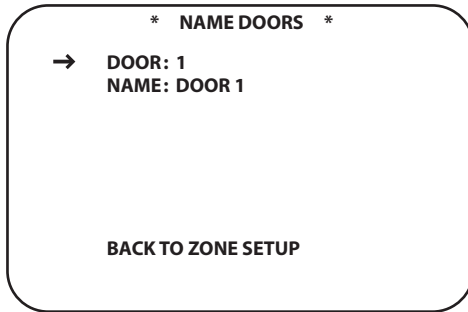
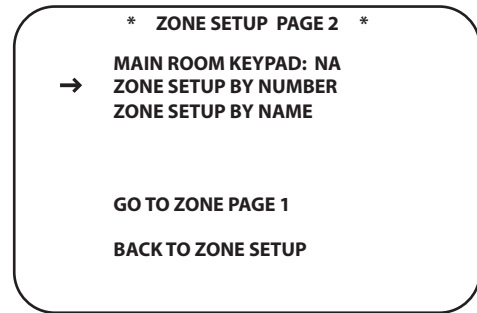
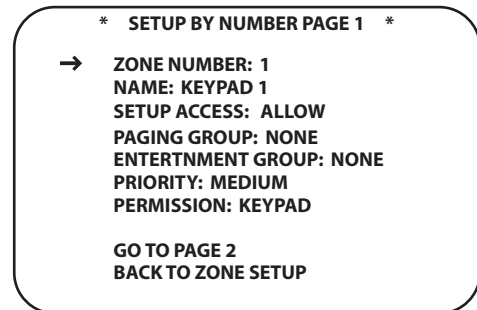

Figure 66.
Figure 67.
Figure 68.
1. From **ZONE SETUP PAGE 1**, with the cursor next to **NAME DOORS**, press the **Set Button** (18). The **NAME DOORS** screen will appear (Figure 66).
2. Press the **▲/▼ Navigation Button** (16) to position the cursor next to **NAME**. Press the **Set Button** (18). A white rectangle will flash to the right of **NAME** : indicating that the remote can be used to enter the letters for the camera name.
3. Using either the **▲/▼ Navigation Button** (16) or the **Alphanumeric Buttons** (46), enter the first letter for the group name (e.g., Front). When the first letter appears on screen, press the **► Navigation Button** (16) to move the cursor to the next letter position.
4. Repeat Steps 2–3 above until the Door Name has been spelled out. A Door Name can have up to five letters. Press the **Set Button** (18). This will store the name and return the cursor back to the arrow next to **NAME**.
5. To name additional groups, press the **▲/▼ Navigation Button** (16) to position the cursor next to **GROUP**. Press the **◀/▶ Navigation Button** (16) to select another group.
To exit Setup, press the **Exit Button** (17). To continue Zone Setup, position the cursor next to **BACK TO ZONE SETUP** and press the **Set Button** (18). **ZONE SETUP PAGE 1** will appear. Press the **▲/▼ Navigation Button** (16) to position the cursor next to **GO TO ZONE PAGE 2**. Press the **Set Button** (18). The **ZONE SETUP PAGE 2** screen will appear (Figure 67). Press the **▲/▼ Navigation Button** (16) to position the cursor next to **ZONE SETUP BY NUMBER**. Press the **Set Button** (18). The **ZONE SETUP BY NUMBER PAGE 1** screen will appear (Figure 68).
1. In the **SETUP BY NUMBER PAGE 2** screen, press the **▲/▼ Navigation Button** ⑮ to position the cursor next to **DOOR ANSWER**.
2. Using the **◀/▶ Navigation Button** ⑮, select the setting for the zone being configured: **ENABLED** or **DISABLED**.
To exit setup, press the **Exit Button** ⑰. To continue Zone Setup, position the cursor next to **GO TO PAGE 3** and press the **Set Button** ⑮. **SETUP BY NUMBER PAGE 3** will appear. (Figure 68) To return to **SETUP BY NUMBER PAGE 1**, position the cursor next to **GO TO PAGE 1** and press the **Set Button** ⑮.